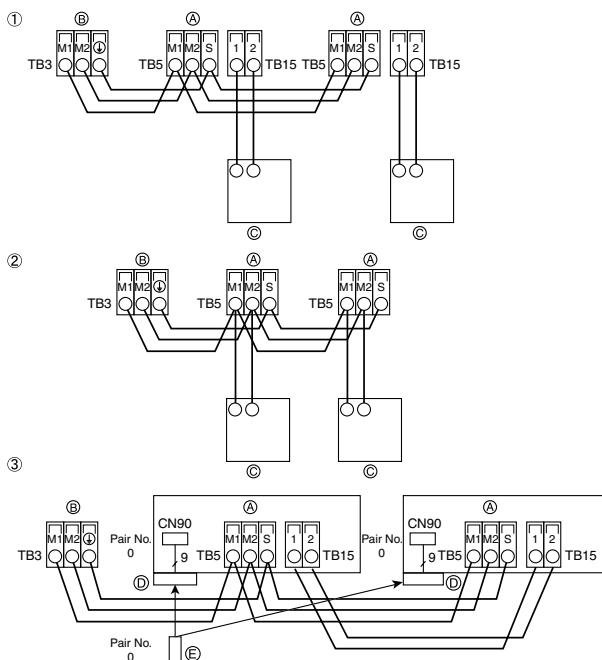

Fig. 4-3
4.2. Connecting remote controller, indoor and outdoor transmission cables (Fig. 4-3)